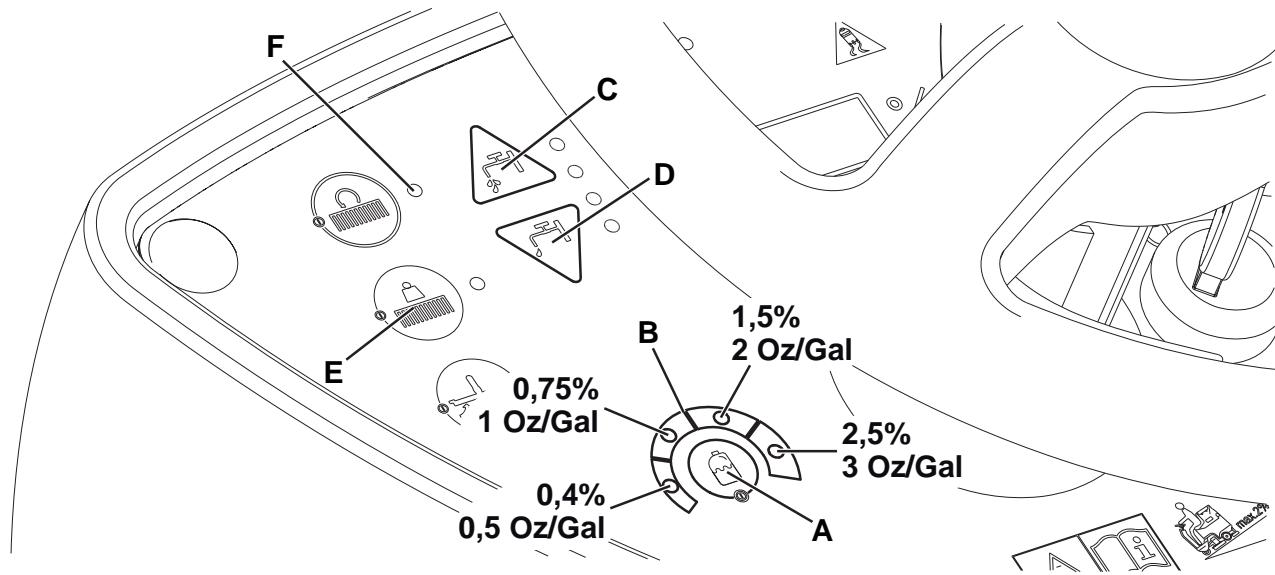

Figure 5
The system used to mix the detergent with the washing water can be activated by pressing the detergent concentration control switch (A, Fig. 5): when one of the LEDs is on, the detergent is added to the washing water.
1. The average detergent concentration varies according to the detergent concentration LED indicators (B), as shown in figure 5.
2. Press the switch (A) to change the detergent concentration to reach the desired setting, or to reset (all LEDs off).
*The detergent concentration is kept constant even if the washing water flow is changed with the switches (C) or (D).*
1. If the floor proves to be particularly difficult to clean, it is possible to turn on the brush/pad-holder extra pressure function by pressing the switch (E, Fig. 5).
2. To return to normal pressure, press the switch (E) again.
- The switch (E) is enabled only when the deck (5 and 10) is lowered and the LED (F) of the switch is on.
*The overload is shown by the three battery warning lights (62) flashing simultaneously.*
*To start scrubbing again after a brush/pad-holder stop due to overload, stop the machine by turning the ignition key (58) to "0". Turn on the machine by turning the ignition key (58) to "I".*